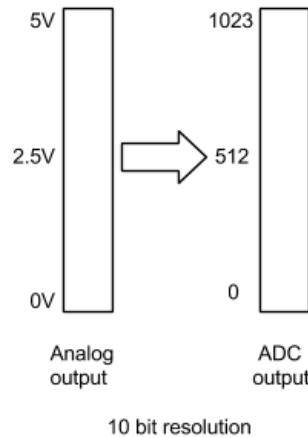

Figure 2.2: ADC resolution
**Analog to Digital Converter (ADC):** Most of the signals around us are continuous. Digital circuits cannot process them. An ADC converts them into digital signals. The resolution of the ADC determines the efficiency of conversion. For example, a 10 bit resolution of the ADC relates to 1024 values per sample. This is shown pictorially in Fig. 2.2. Higher resolution relates to better translation of an analog signal.